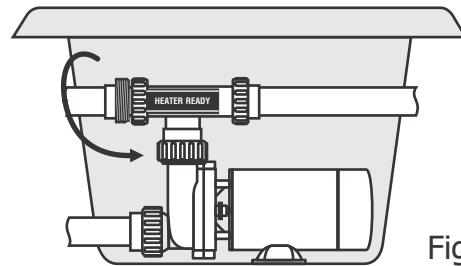

Fig.6
- 2 - Loosen nuts (3) and remove Heater Ready fitting and existing gaskets** (see Fig. 6).